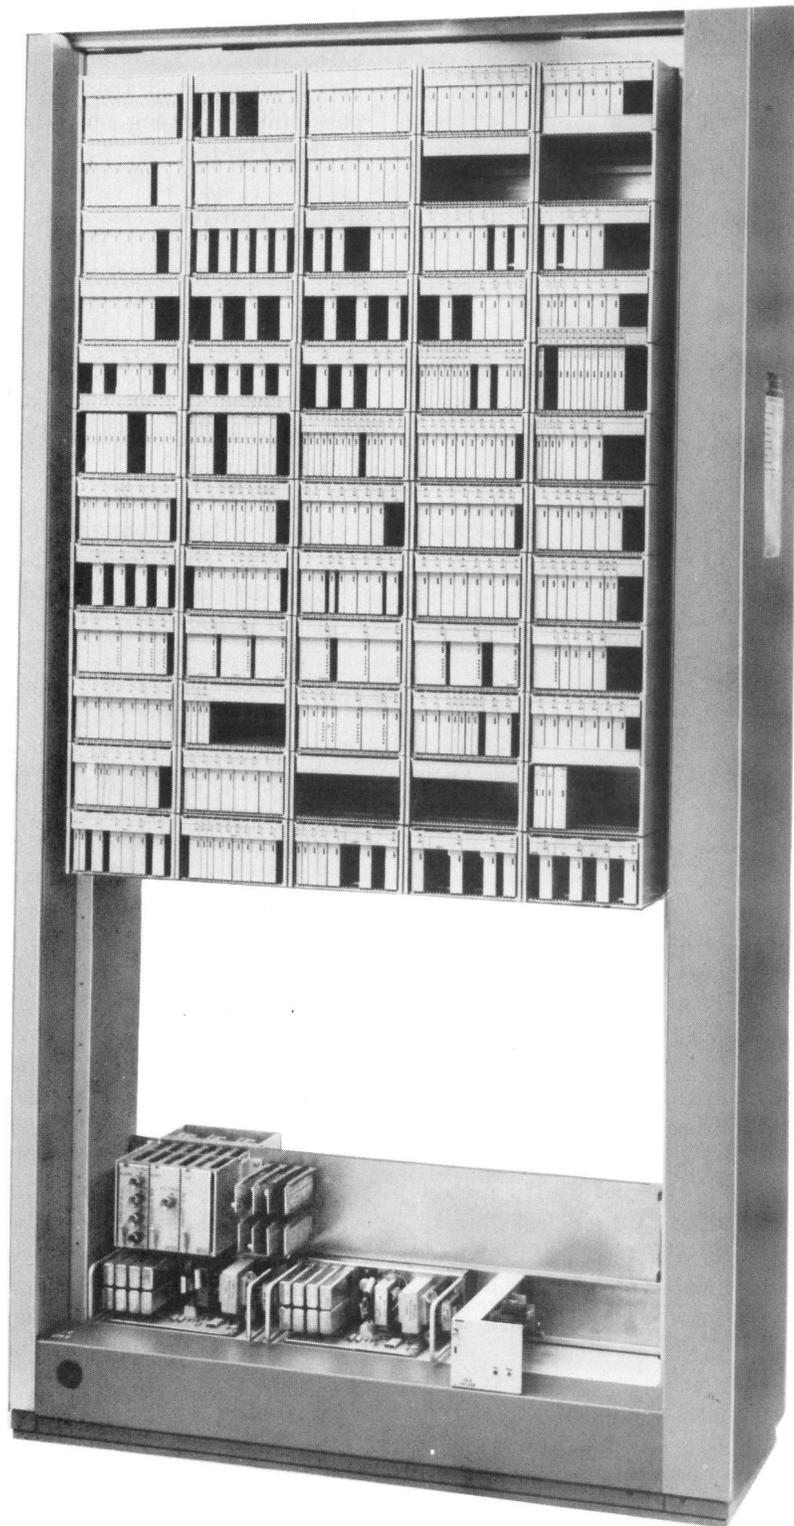

Fig. 8—Circuit Pack Storage Frame
**4.13** Circuit packs, after being unpacked from the shipping carton, should be stored in a suitable storage facility. The facility may be an especially designed frame, such as the one used in No. 2 Electronic Switching System (ESS) offices (Fig. 8), a steel cabinet (ED-1A229-10) equipped with a wooden storage rack as used in No. 1A and No. 4 ESS offices, or any facility which protects the pack from mechanical damage, dust, or dirt during storage.